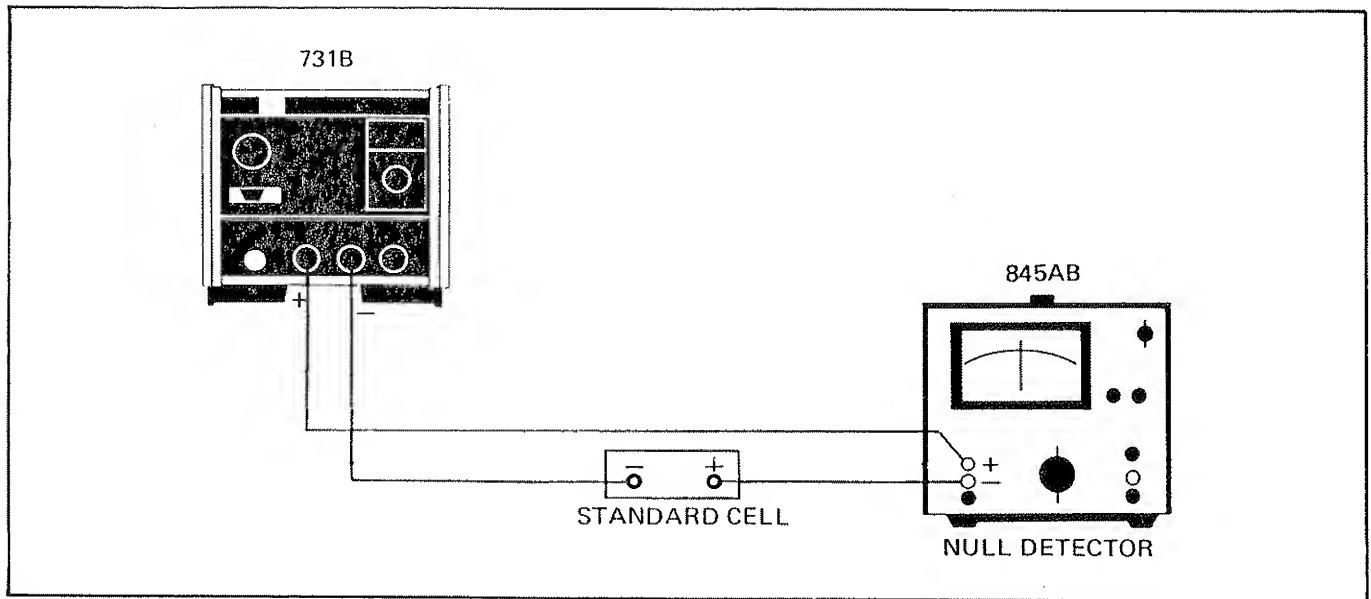

Figure 2-3. STANDARDIZING THE 731B.
- Connect the standard cell and a null detector (Fluke 845AB or equivalent) to the 731B as shown in Figure 2-3.